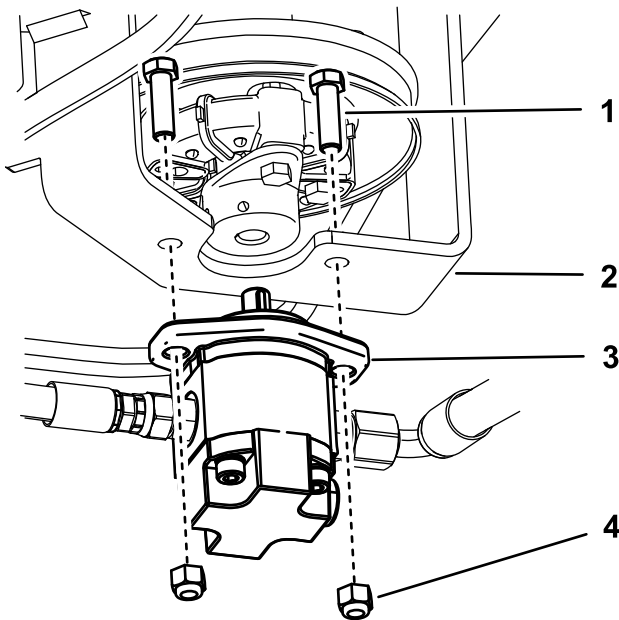

Figure 44
7. Remove the 2 bolts and 2 nuts and loosen the 2 set screws on the coupler. Remove the gear pump from the pump mount (Figure 44).
10. Install the gear pump (Figure 44).